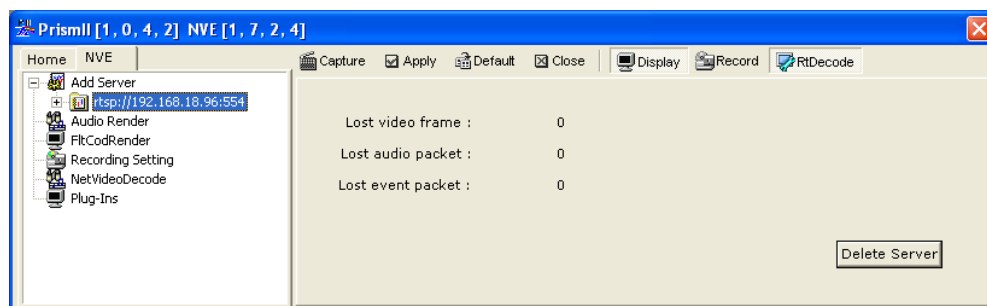

Figure 4. Connected Server Deletion
STEP 4 To delete a server, select it and click *Delete Server* in the bottom right corner of PrismII, as shown in Figure 4.